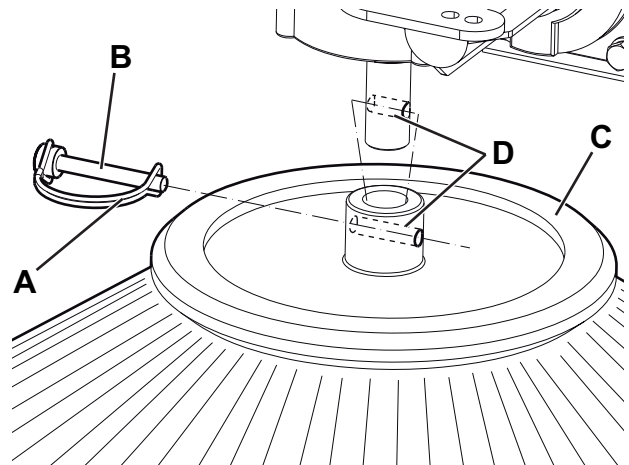

Figure 9
2. Turn the ignition key (82) to "0".
3. Release the spring (A, Fig. 9), remove the pin (B) and the broom (C) from the gearmotor shaft.
4. Install the new broom on the gearmotor shaft, insert the pin (B) in the holes (D), and engage the spring (A).